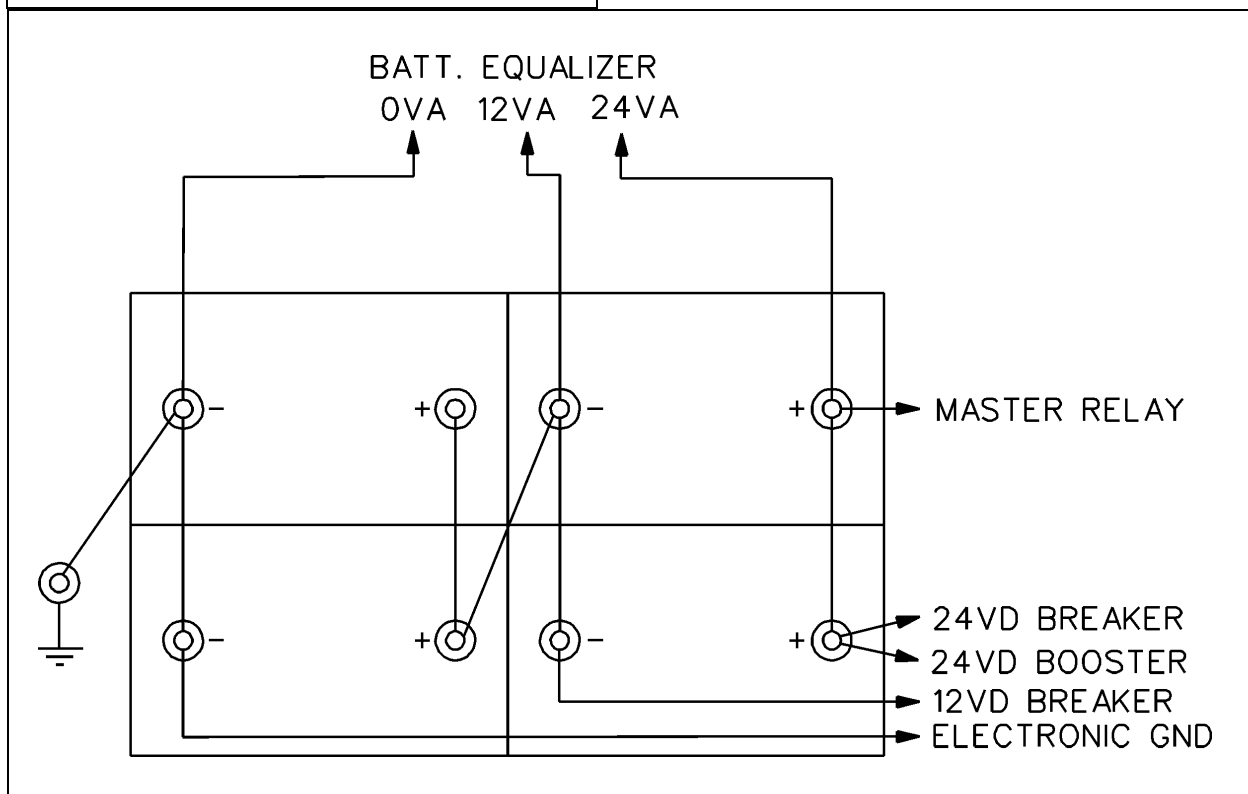

FIGURE 17: STANDARD BATTERY CONNECTIONS
X3-45 coaches are provided with four (4) maintenance-free 12 volt heavy-duty batteries connected in series-parallel (Fig. 17 & 18). The top-mounted negative and positive terminals are tightly sealed to prevent leaks. Water never needs to be added to this type of battery. There are no filler caps in the cover. The battery is